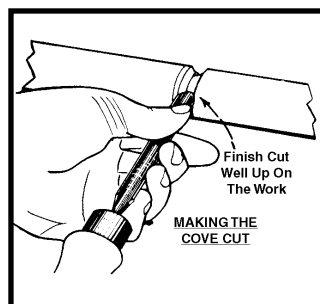

Fig. A34
From the starting position, push the gouge into the revolving stock, and roll the tool on the rest. A triple action takes place here. (1) The chisel will roll to follow the shape of the cut, (2) the handle will drop slightly so that the portion already cut will force the lip of the chisel sideways and, (3) the chisel will be pushed forward so that at the end of the cut, Fig. A34, it will be well up on the work and tangent with the cut surface. Make only one-half of the cut at a time, then reverse the chisel to cut the other half. The occasional turner should make cove cuts with a scraping technique, using either the small gouge or round nose chisel.